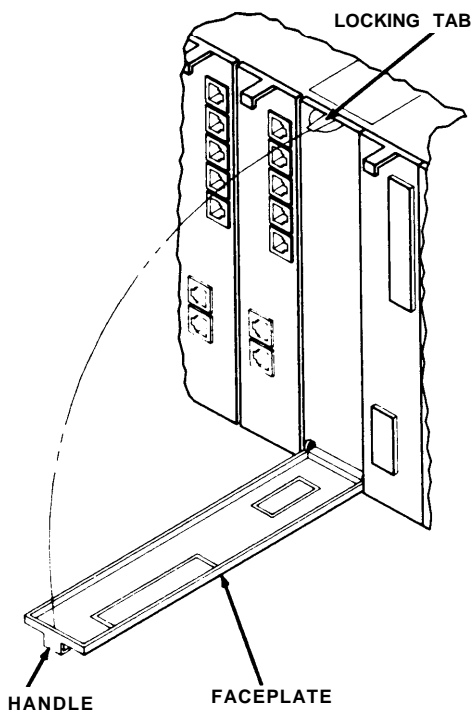

Figure 4
3. Grasp the handle on the faceplate of the expansion module slot and pull it open (see Figure 4). Do not remove the faceplate.